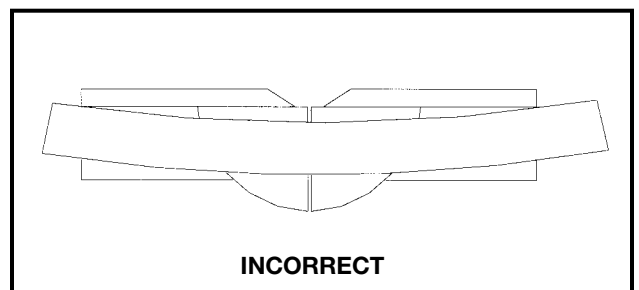

Fig. 35
2. If the material is positioned the wrong way, as shown in Fig. 35, the workpiece will pinch the blade near the completion of the cut.